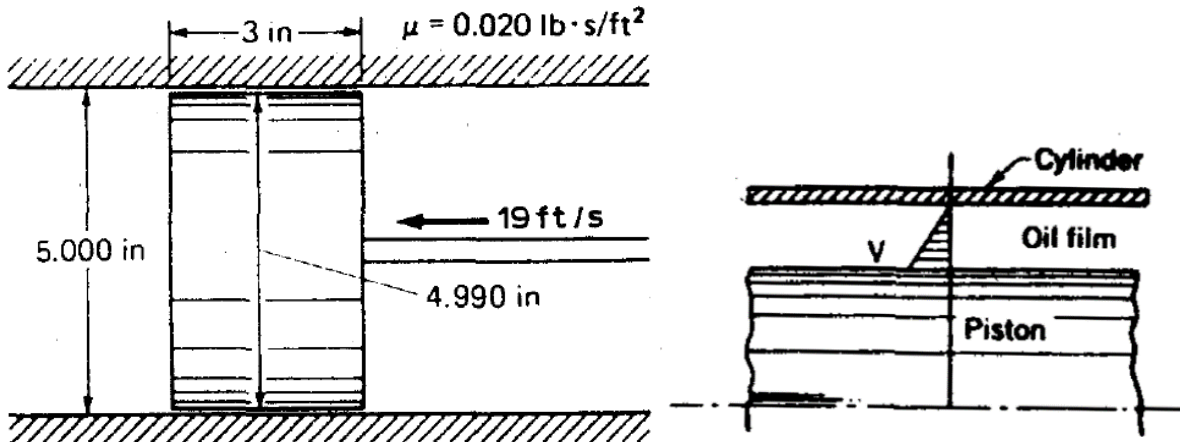

Figure 1
1. A piston is moving through a cylinder at a speed of 19 ft/s, as shown in Fig. 1 (left). The film of oil separating the piston from the cylinder has a viscosity of  $0.020 \text{ lb}\cdot\text{s}/\text{ft}^2$ . What is (a) the shear stress  $\tau$  at the piston surface and (b) the force  $F_f$  required to maintain this motion? Assume a cylindrically symmetric, linear velocity profile for the flow of oil in the film as shown in Fig. 1 (right). (Note:  $1 \text{ ft} = 12 \text{ in}$ )